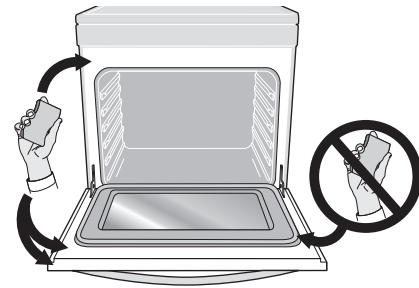

Figure 35: Areas to clean and areas to avoid (gasket)
- Do not spray oven cleaners or oven protective coatings in or around any part of the oven interior. Clean any soil from the oven frame, the door liner outside the oven door gasket, and the small area at the front center of the oven bottom (Figure 35). These areas heat sufficiently to burn soil on. Clean using soap and water prior to starting Self Clean.